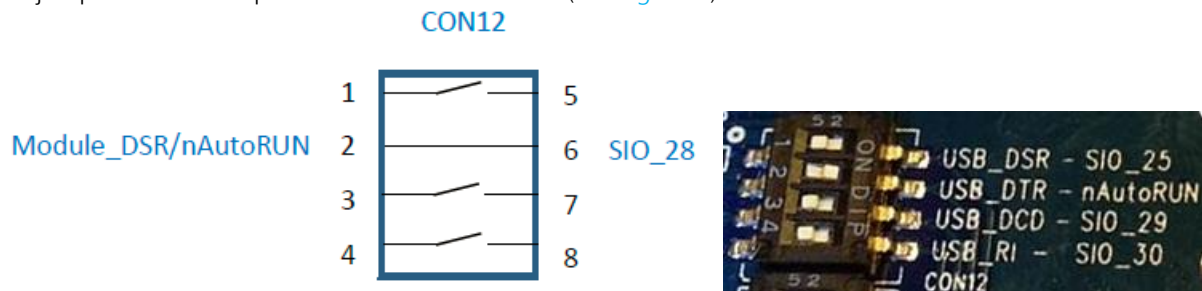

Figure 5: Micro DIP switch CON12 closed (nAutoRUN controlled by PC)
- CON12 (switch 2; that is pin 2-6) MUST be CLOSED (in ON position) to allow PC (using uWTerminal) to control nAutoRUN pin (SIO.28); with no jumper fitted to J6 (see Figure 5).
**Note:** The additional lines of the DIP switch CON12 are not currently utilised and need to remain open, as shown in Figure 5.